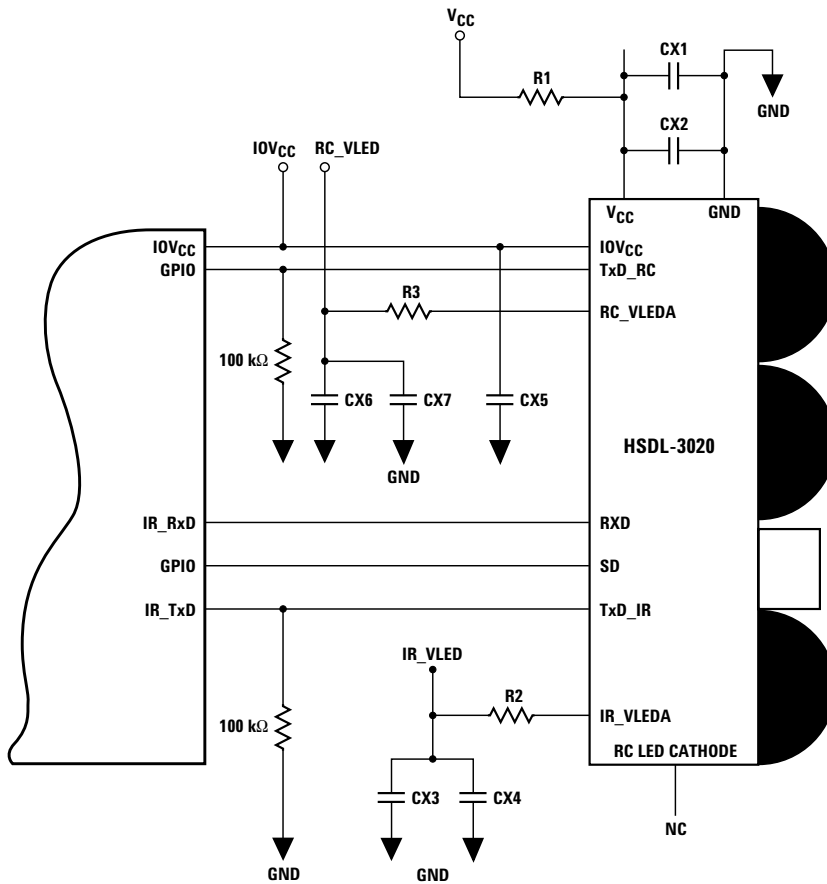

Figure 3: HSDL-3020 configuration with general mobile architecture processor.
*Detailed configuration of HSDL-3020 with the controller chip is shown in Figure 3.
The transceiver is directly interfaced with the microprocessor provided its support infrared communication commonly known as Infrared Communications Port (ICP). The ICP supports both SIR data rates, with up to 115.2 kbps, and sometimes FIR data, with data rates up to 4 Mbps. The remote control commands can be sent to one of the available General Purpose IO pins or the UART block with IrDA functionality. It should be observed that although both IrDA data transmission and Remote control transmission is possible simultaneously by the hardware, the software is required to resolve this issue to prevent the mixing and corruption of data while being transmitted over the free air. The above Figure 3 illustrates a reference interfacing to implement both IR and RC functionality with HSDL-3020.